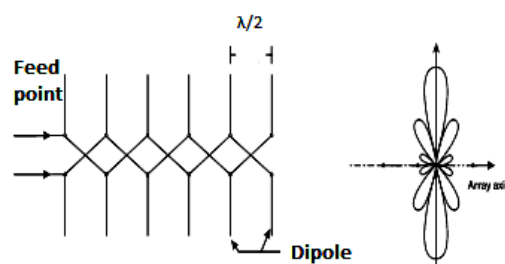

Fig.1.30 Broadside array    Radiation pattern of Broadside array
- ❖ It is strongly directional at right angles to the plane of the array. The arrangement and radiation pattern are shown in Fig. 1.30